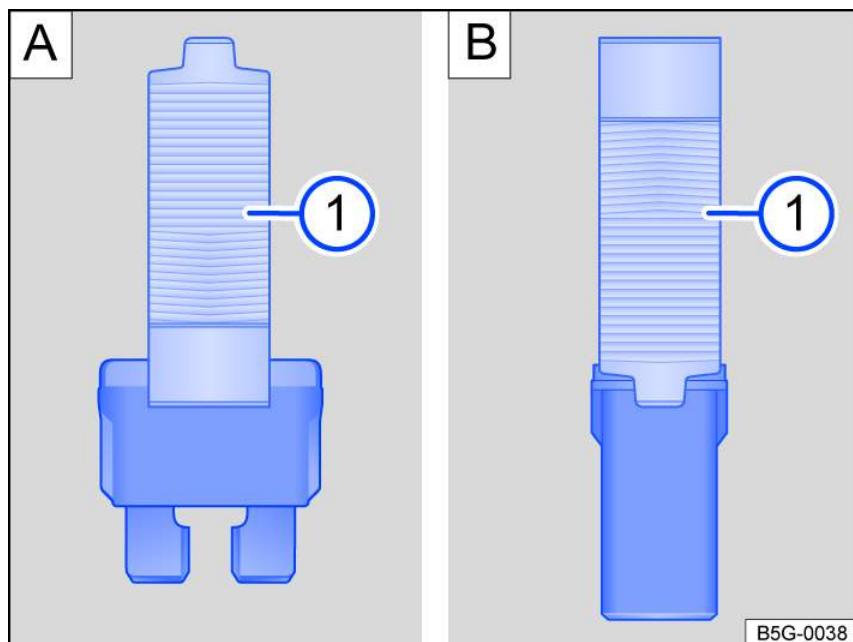

Fig. 132 Remove or install a fuse with the plastic pliers (general example).
1. Remove plastic tongs from either the fuse box or the cover of the fuse box fig. 132 ①.
2. Depending on the design of the fuse, slide the appropriately sized clamp on the plastic pliers onto the fuse from above or from the side fig. 132.